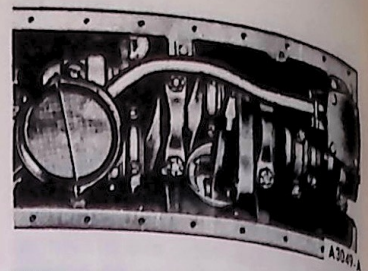

FIG. 30 Oil Pump and Pick-Up Tube Installed
2. Position a new gasket on the pump housing, prime the pump by filling the inlet opening with oil and rotate the pump shaft until oil emerges from the outlet opening. Install the oil pump, shaft, and pick up tube as an assembly (Fig. 30). **Do not attempt to force the pump into position if it will not seat readily. The drive shaft hex may be misaligned with the distributor shaft. To align, rotate the intermediate shaft into a new position.**